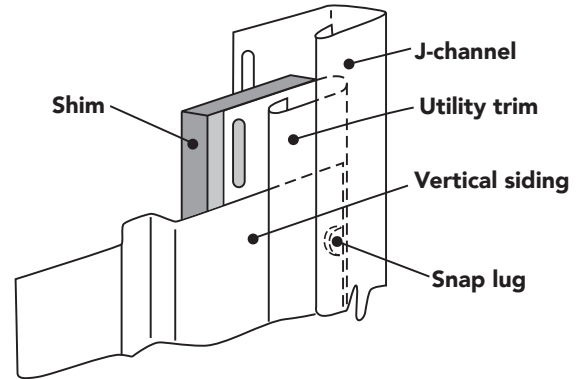

Figure 58
- The utility trim will need to be shimmed to maintain the face of the panel (Figure 58).
- Install successive panels by securing from the topmost full nail slot downward, as described above, then 12" (305mm) on center for the rest of the panel. Around windows, doors, and fixtures, allow 1/4" (6.4mm) clearance in receiving channels (increase to 3/8" [9.5mm] if installing below 40° F [4.4° C]). When the panels are cut in the "V" groove or on the flat surface of the panel to accommodate an opening, install utility trim to properly secure panels, as described above (Figure 58). Check the plumb of the installation every few panels to maintain the best appearance.
- The final siding panel should be the same width as the starting course. Depending on where the cut occurs, it may be necessary to install utility trim inside the receiving pocket of the J-channel or corner post that receives the vertical siding (Figure 58). It may also be necessary to shim the utility trim outward to a level equal that of the siding panel face, in order to keep a level appearance.